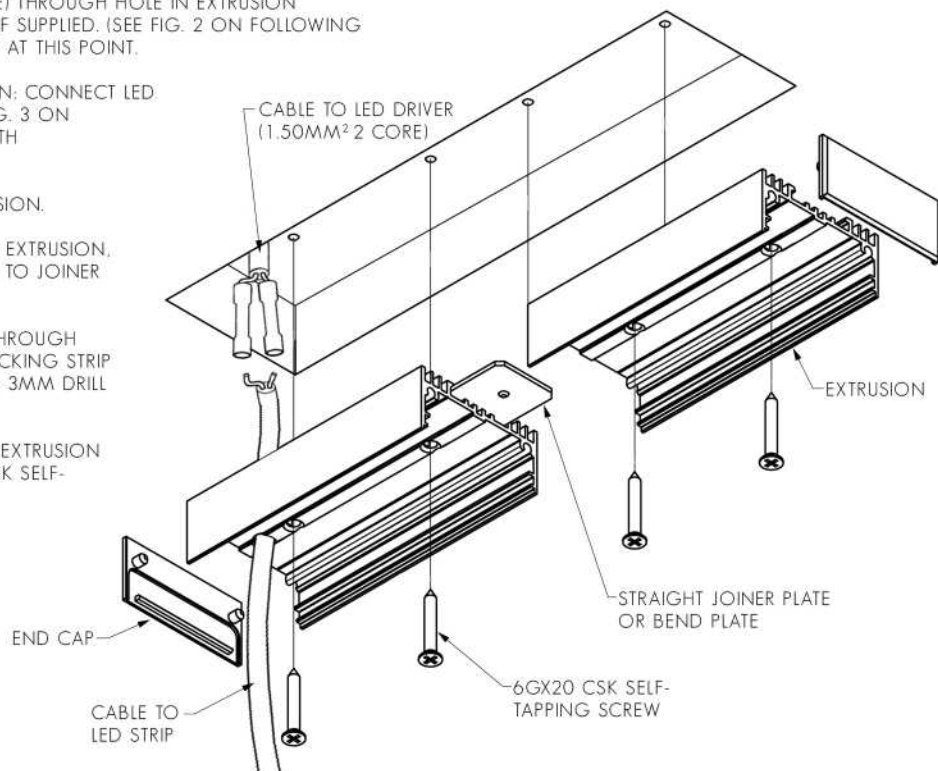

FIG. 2 - FASTEN CABLE USING CORD GRIP
1. FEED LED STRIP TAILS (OR CABLE) THROUGH HOLE IN EXTRUSION AND CLAMP USING CORD GRIP, IF SUPPLIED. (SEE FIG. 2 ON FOLLOWING PAGE). DO NOT INSTALL LED STRIP AT THIS POINT.